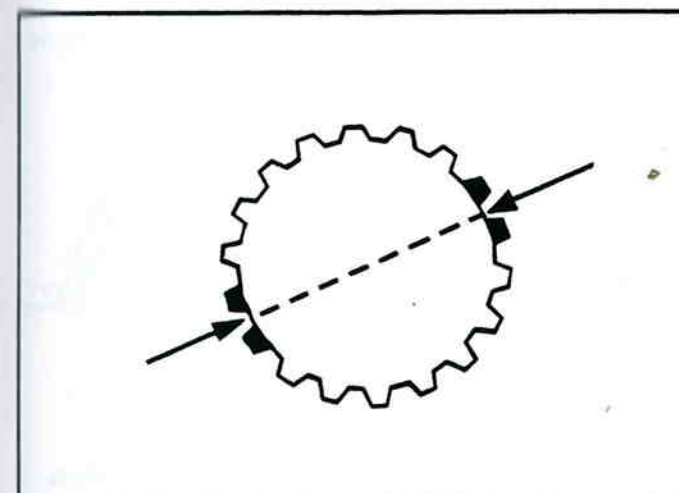

Figure 13-82. Main Drive Gear Teeth Correctly Marked For Timing.
2. Mark the two adjacent teeth on the main drive gear which are directly opposite the first set marked. There should be an equal number of teeth between the markings on each side of gear (see figure 13-82).